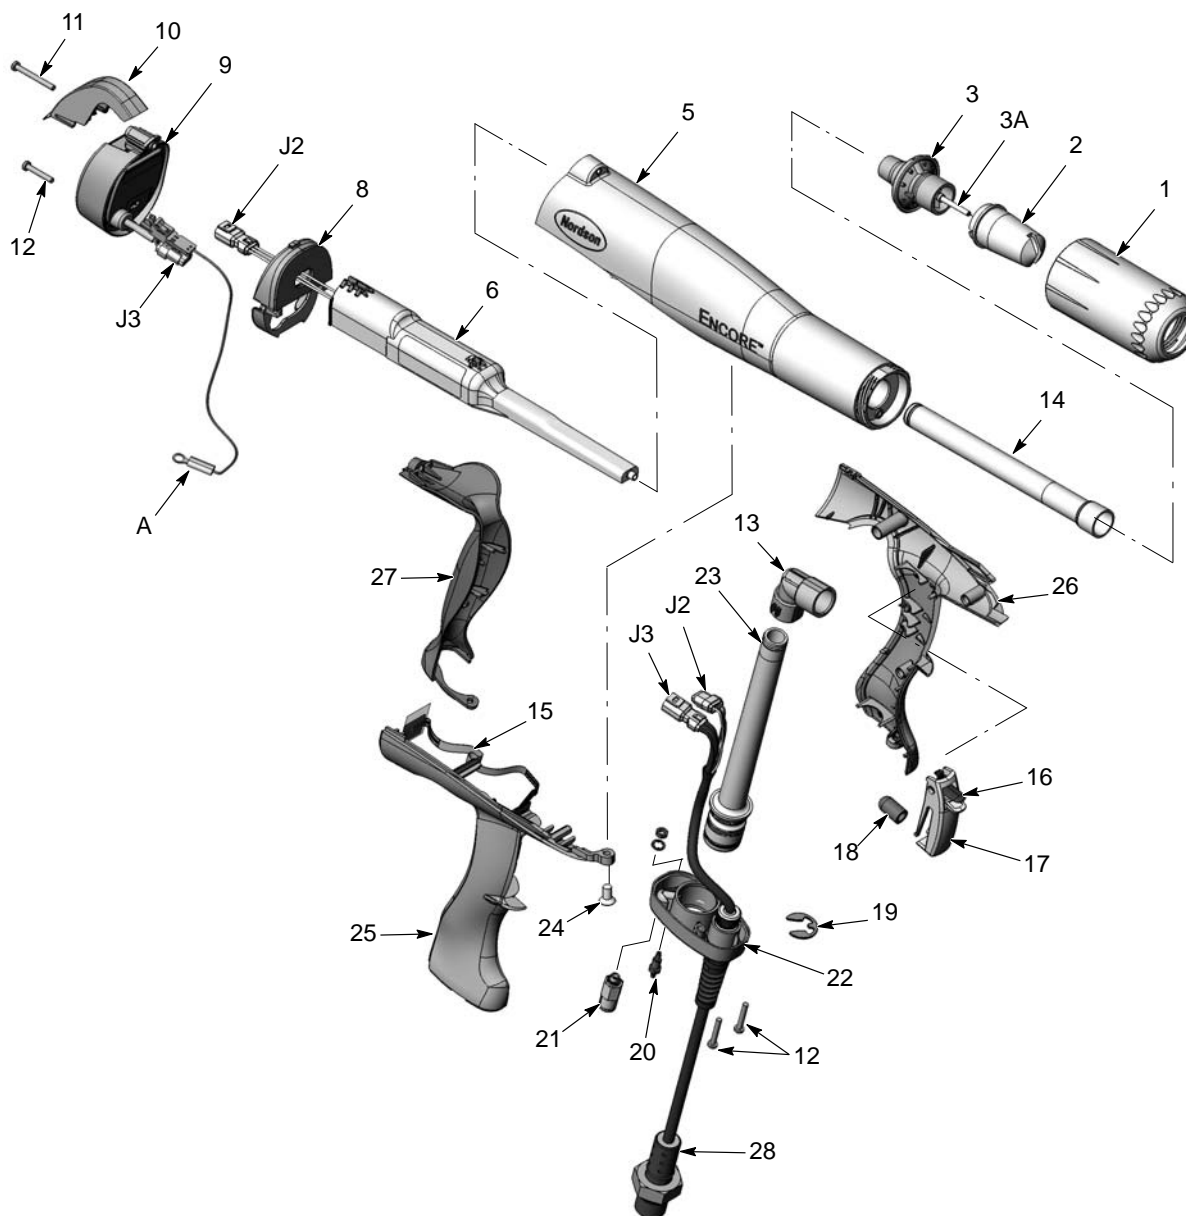
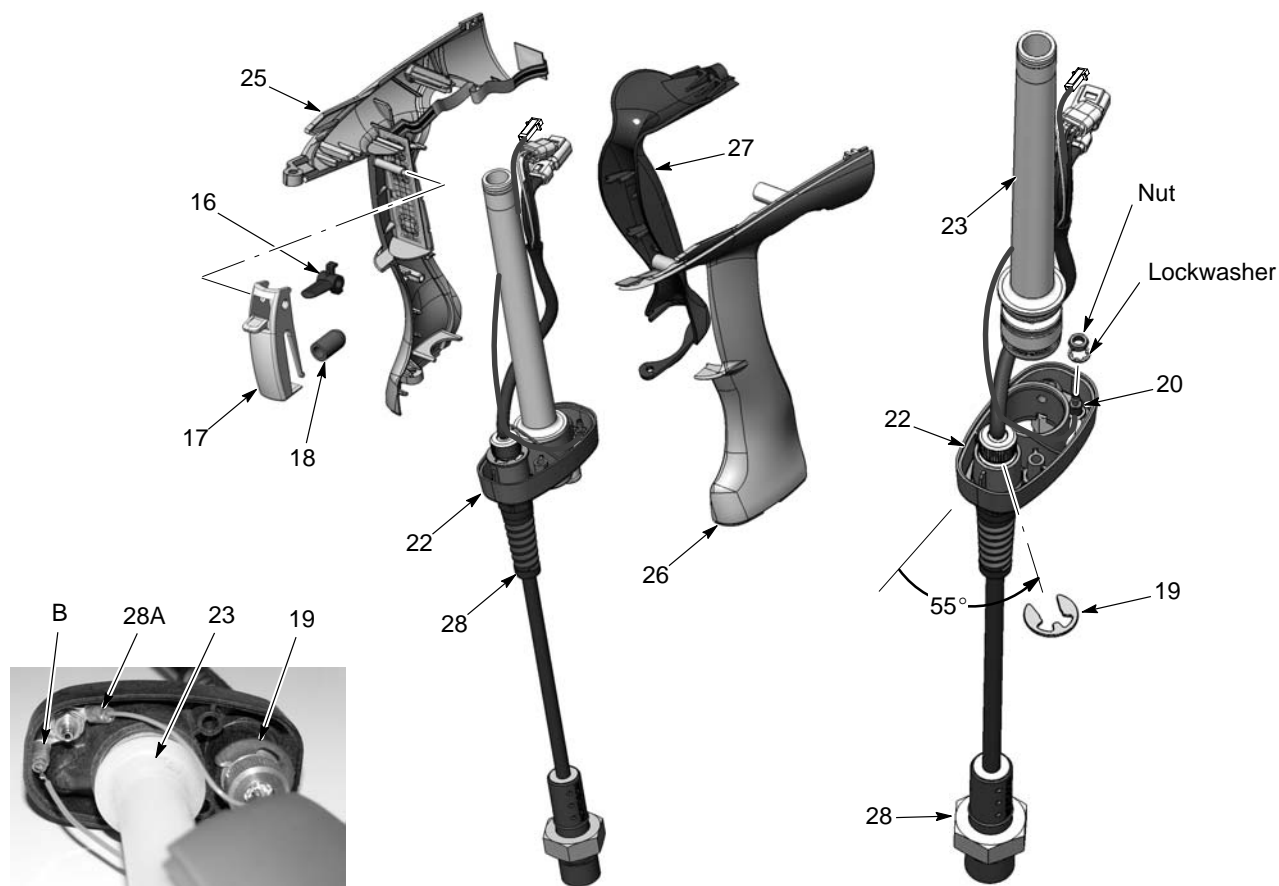
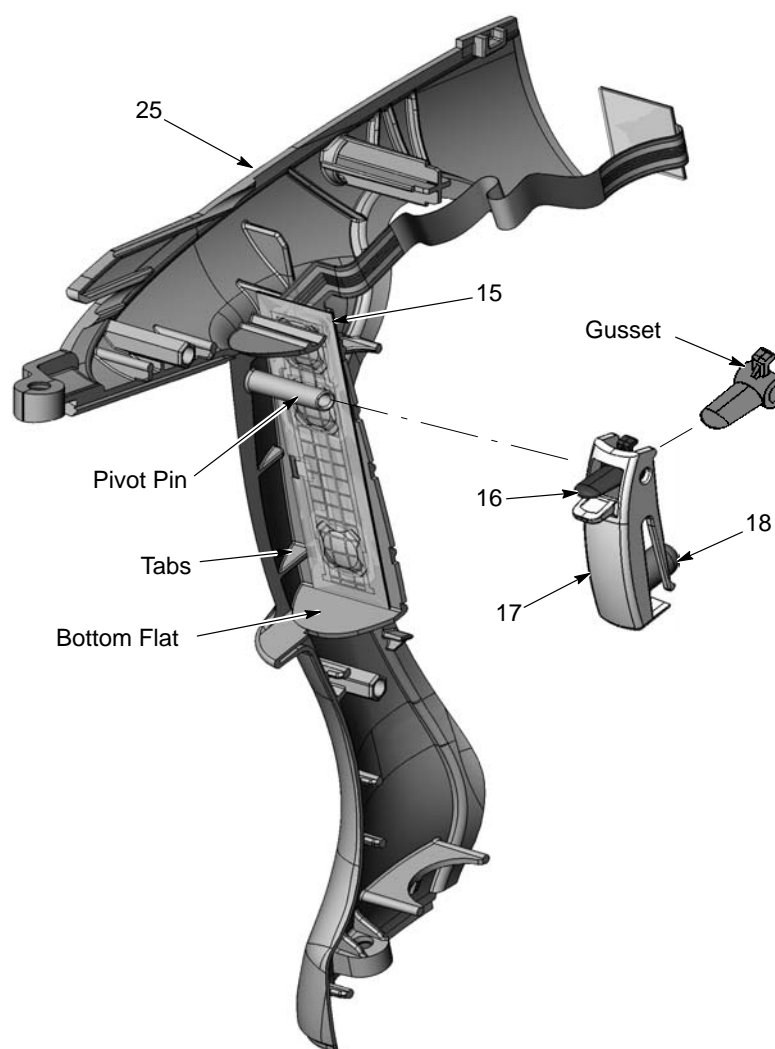

Figure 5-3 Exploded View of Spray Gun (Numbering is same as parts list)
Figure 5-9 Completing Gun Disassembly
Figure 5-10 Trigger Switch and Trigger Mounting
2. If you are installing a new trigger switch, remove the two liners from the connector side of the trigger switch header as shown in Figure 5-3.
8. Secure the module with the bottom (M3 x 20) screw (12).
9. Slide the hook (10) onto the display module and secure it with the top (M3 x 30) screw (11).
See Figures 5-3, 5-4, and the figures accompanying the disassembly steps.
12. See Figure 5-9. Separate the right and left handles (25, 26).
1. See Figures 5-9 and 5-11. Feed the cable (28) through the handle base (22) and secure it to the base with the retaining ring (19). Position the retaining ring at the angle shown.
**NOTE:** New display modules include a separate ground cable with a connector on the module end and a ring-tong terminal on the other. This cable must be securely connected to the barbed fitting (20).
2. Install the dual barbed fitting (20) into the base and slip the gun cable and display module ground terminals over the fitting. Install the internal-toothed lockwasher and nut on the fitting and tighten the nut.
3. If the check valve (21, Fig. 5-3) was removed, thread it into the base. Do not overtighten the valve.
4. Install the inlet tube with O-rings installed (23) into the handle base (22).
5. See Figure 5-10. If removed, install the trigger switch (15) on the mounting flat of the right handle (25), up against the tabs and the bottom flat. Press firmly on the switch to secure it in place.
6. Assemble the actuator (18) on the main trigger (17) boss. Note the orientation of the settings trigger (16) gusset, then insert it into the main trigger. Align the pivot holes in the triggers then slide the triggers over the trigger pivot pin on the right handle half.